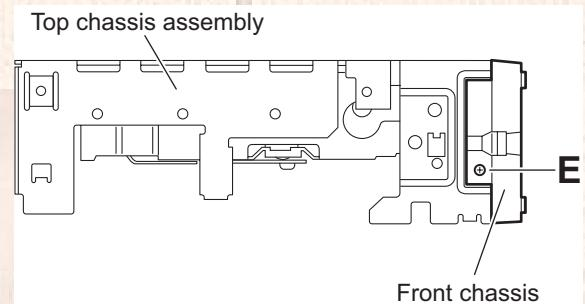

Fig.7
(See Figs.7 and 8)
- (1) From the both sides of the top chassis assembly, remove the two screws **E** attaching the front chassis. (See Figs.7 and 8)
- (2) Take out the front chassis